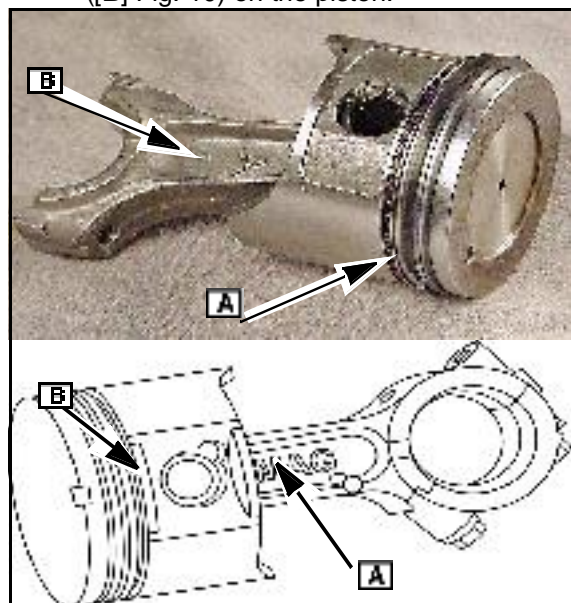

Fig. 10
1. Orient the connecting rod and piston as shown in (Fig. 10).
2. Align the letters "MAG" ([A] if used) on the connecting rod with the notch or arrow ([B] Fig. 10) on the piston.